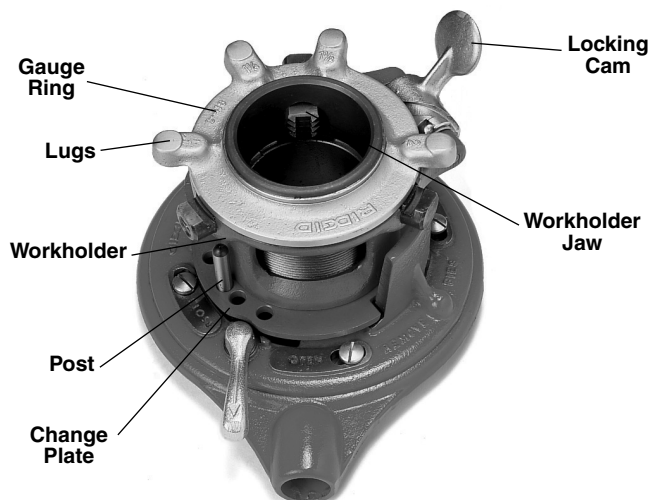

Figure 2 – 65R-TC Threader
65R-TC: Turn gauge ring until desired pipe size is aligned with locking cam (Figure 2).
7. Secure workholder on the pipe by tightening the clamp screw (*Figure 1*) or the locking cam (*Figure 2*).